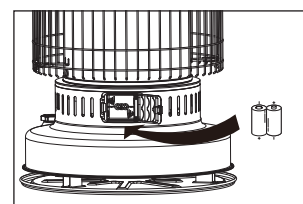

Fig.8
**F) INSTALLING BATTERIES: (Fig.8)**